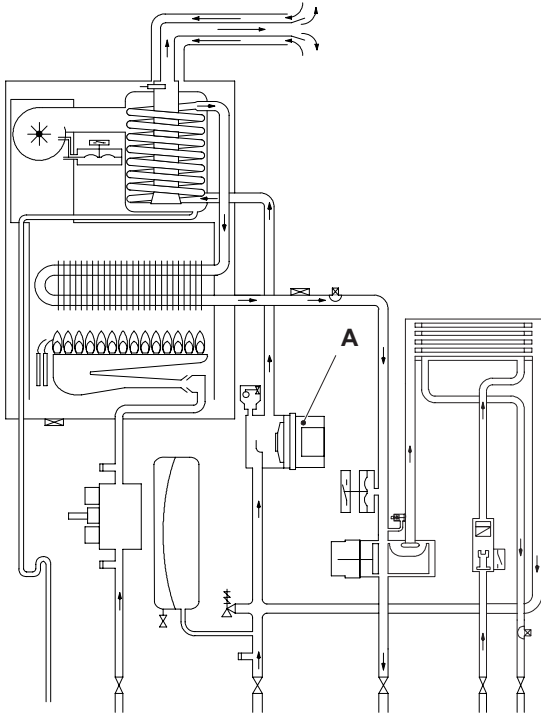
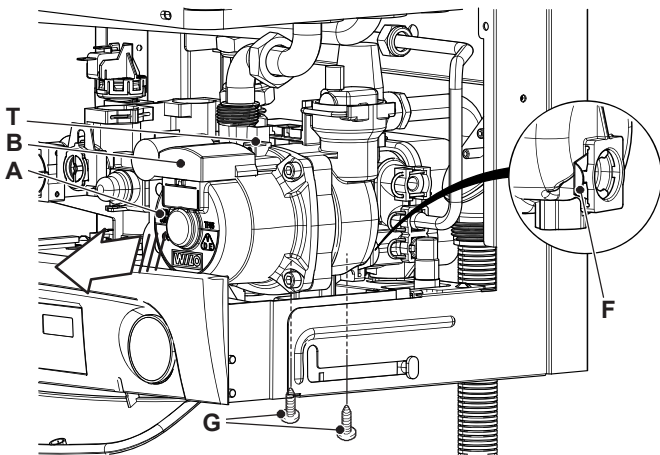

Figure 8.1
Figure 8.4
The pump A in Figure 8.1 and Figure 8.4 has the function of making the water in the main circuit circulate through the main heat exchanger, the condensing heat exchanger and therefore through the c.h. system (during the c.h. function) or through the secondary heat exchanger (during the d.h.w. function).
With the boiler off, remove the front panel and disconnect the connector B (Figure 8.4).
- 3 Disconnect the connector B (Figure 8.4) following the indications given on the connector box.
- 4 Disconnect the earth connector T (Figure 8.4).
- 6 Remove the locking plate F (Figure 8.4).
- 2 Disconnect the connector B (Figure 8.4) following the indications given on the connector box.